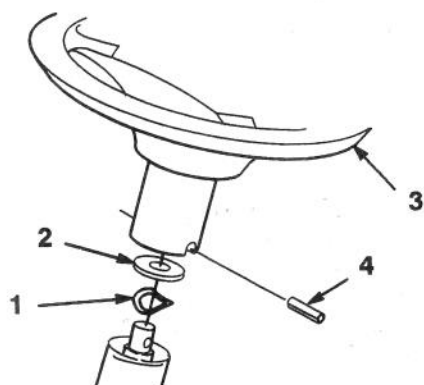

Figure 3
2. Slide wave washer and flat washer over steering shaft (Fig. 3).
3. Position the steering wheel onto the shaft. Line up the hole in the steering wheel with the hole in the shaft (Fig. 3). From the seat you should be able to read the brand logo on the steering wheel.
5. Using a hammer, drive the roll pin in until it is flush with the outside of the steering wheel (Fig. 3).